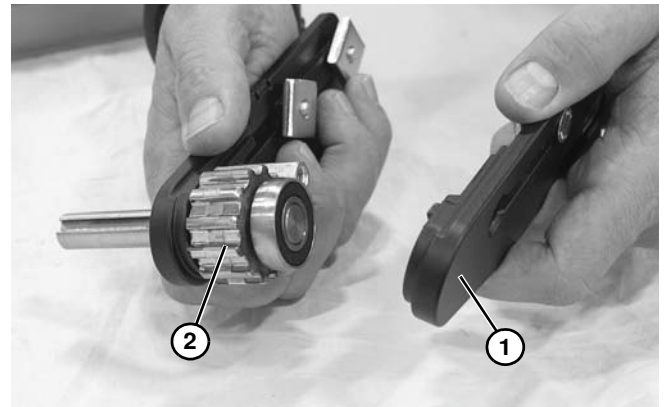

**Figure 63**
3. Remove fastening screw (**Figure 63, item 1**).